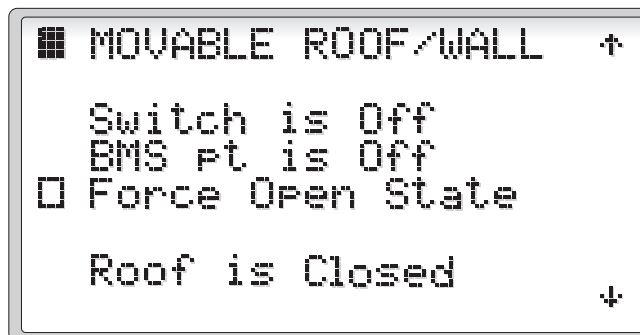

Figure 21
2.3.3.1.5 Configuration – Movable Roof/Wall (Figure 21)
Pressing the **DOWN** key will now display the Movable Roof/Wall screen (Figure 21). This screen displays the state of the Roof open. The Force Open State will manually set the Roof Open state from the controller. To determine what the dehumidifier will do when the Roof is Open, see the next screen.